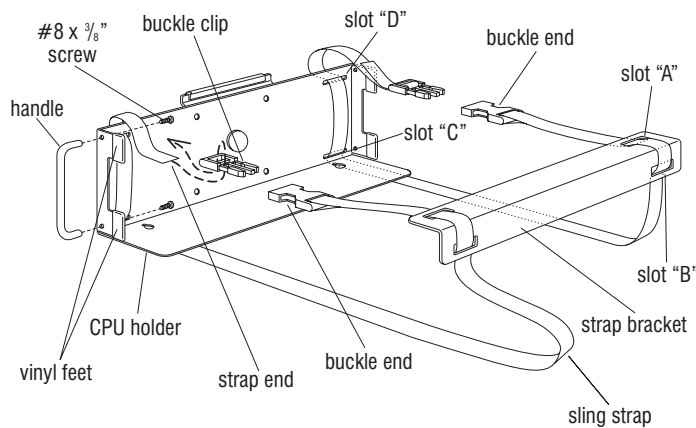

Figure 1
2. Secure the handle to the CPU holder with two #8 x $\frac{3}{8}$ " screws at the two holes located above the vinyl feet (Figure 1).